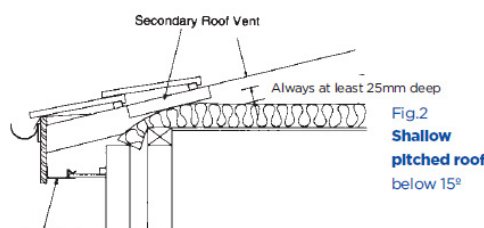

Fig.2
- With a pitched roof where the pitch of the roof is less than 15 degrees and the roof space is an attic or loft a free airflow is required which is equivalent to a continuous 25mm opening (25,000 mm2 per metre run). See Fig. 2
- With a pitched roof where the pitch of the roof is less than 15 degrees and the roof space is an attic or loft a ventilation channel at least 25mm deep must be maintained between the roof insulation and the underside of the roof covering. See Fig. 2